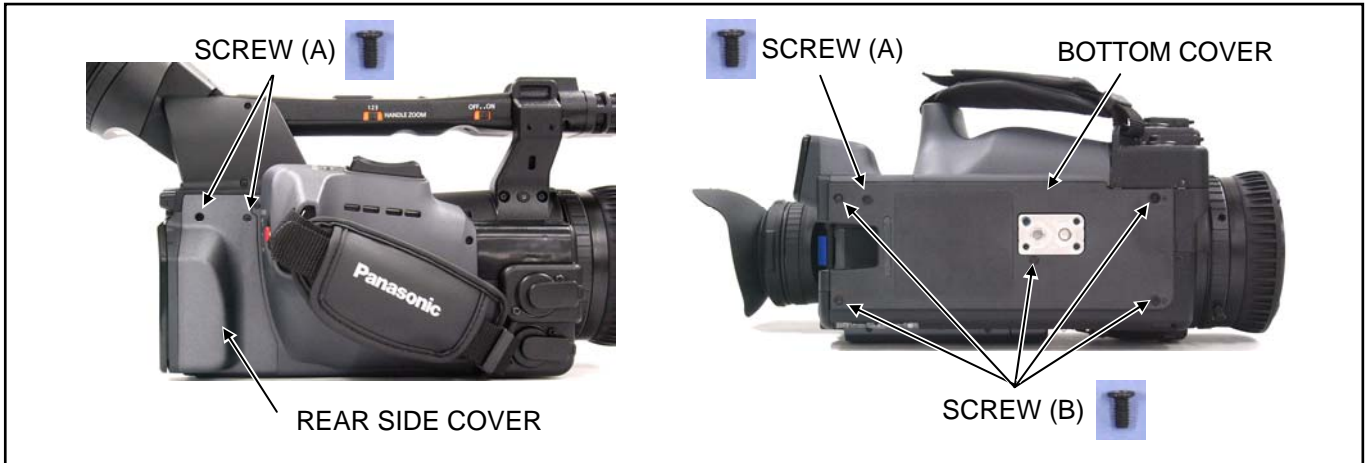

Figure 4-1
1. Unscrew the 3 screws (A) and remove the REAR SIDE COVER as shown in figure 4-1.
2. Unscrew the 5 screws (B) and remove the BOTTOM COVER as shown in figure 4-1.